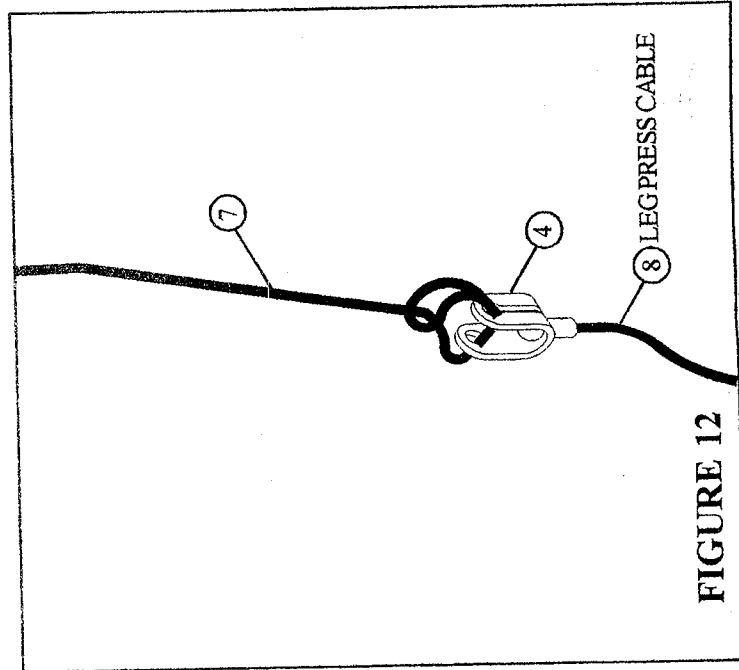

FIGURE 12
• Assemble one 72" ELASTIC CORD (7) to the KEYHOLE CLEVIS (4) as shown in FIGURE 12.